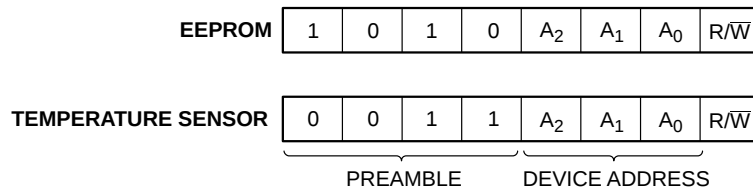

Figure 21. Slave Address Bits
The Master initiates data transfer by creating a START condition on the bus. The Master then broadcasts an 8-bit serial Slave address. The first 4 bits of the Slave address (the preamble) select either the Temperature Sensor (TS) registers (0011) or the EEPROM memory contents (1010), as shown in Figure 21. The next 3 bits, A2, A1 and A0, select one of 8 possible Slave devices. The last bit, $R/\overline{W}$, specifies whether a Read (1) or Write (0) operation is being performed.